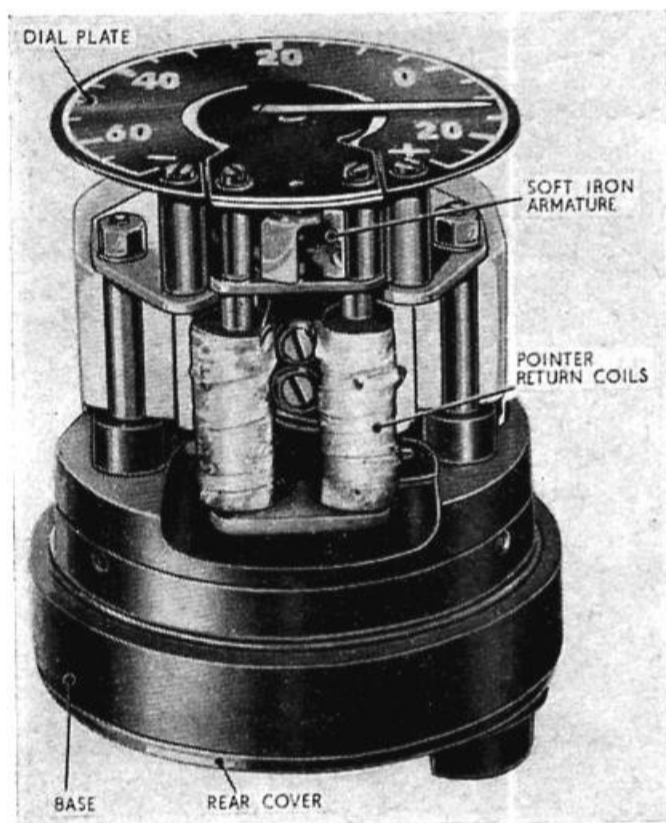

Fig. 4. Indicator movement, side view
13. The pointer return unit consists of an electromagnetic device incorporating two iron cored coils (*fig. 4*), connected in parallel, and a soft iron armature. The pivoted armature is connected by quadrant and pinion gearing to a fine copper-beryllium arm which bears against the vertical arm of the pointer when the unit is de-energized.